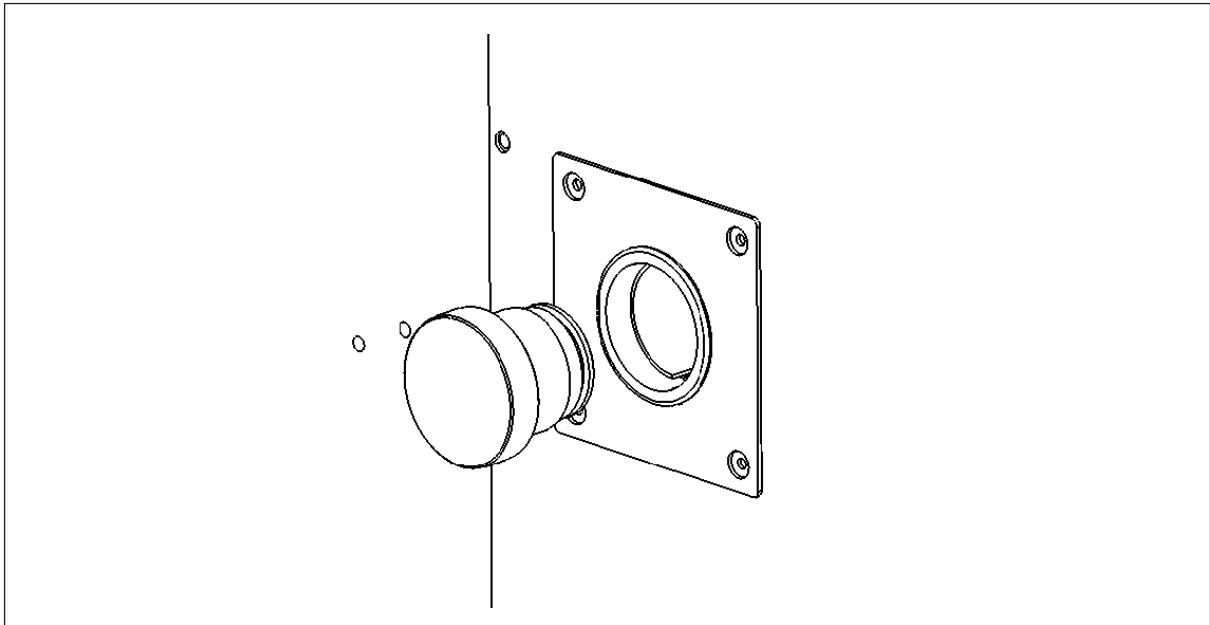

Fig. 13-3: Oxygen sensor rear access cover
1. Pull the rear access cover (see Fig. 13-3 on p. 90) off the rear outside wall of the incubator to gain access to the oxygen sensor.
2. Remove the hydrophobic filter holder assembly (see Fig. 13-3 on p. 90) by unscrewing it (counter-clockwise).